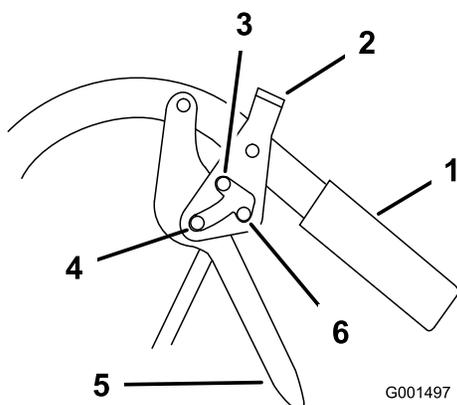

Figure 7
1. Squeeze the drive levers (Figure 7).
2. Place your thumbs on the upper part of the locks and move them forward in into the **park** position (Figure 7).
1. Squeeze the drive levers back (Figure 7).
2. Place your thumbs on the upper part of the locks and move them rearward until they are in the Drive position (Figure 7).
2. Place your thumbs on the upper part of the locks and move them rearward into the Neutral Lock position (Figure 7).
2. Place your thumbs on the upper part of the locks and move them forward until they are in the Drive position (Figure 7).